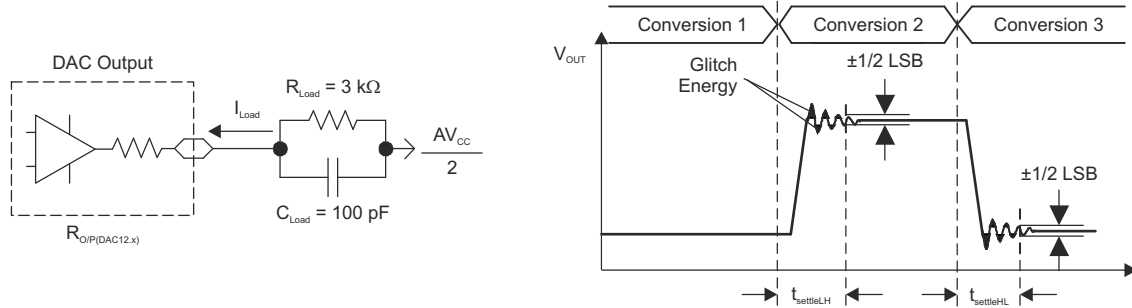
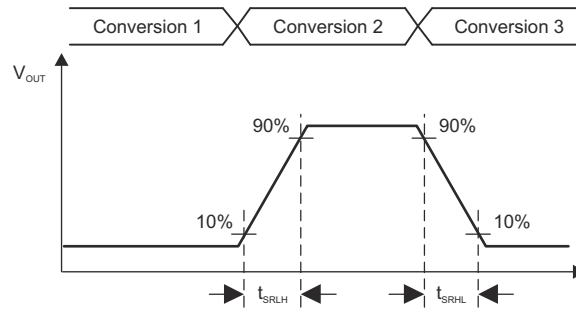

图 8-21. Settling Time and Glitch Energy Testing
图 8-22. Slew Rate Testing
V_{REF} = V_{CC}, DAC12IR = 1 (see 图 8-21 and 图 8-22), over recommended ranges of supply voltage and operating free-air temperature (unless otherwise noted)
- (1) R_{Load} and C_{Load} connected to AV_{SS} (not AV_{CC}/2) in 图 8-21.
- (2) Slew rate applies to output voltage steps ≥ 200 mV.